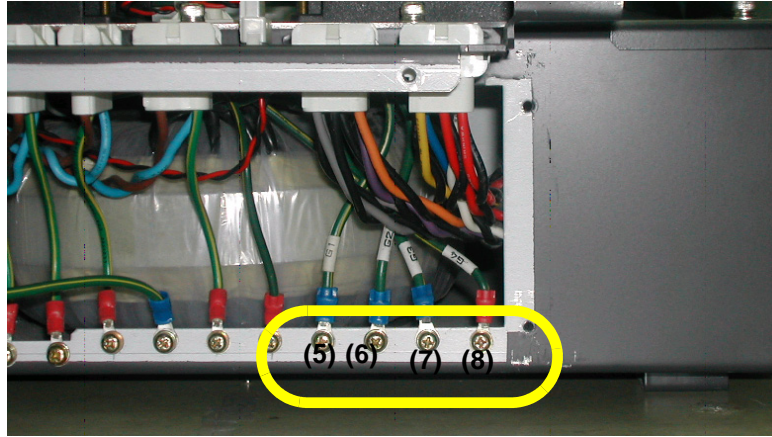

Figure 8-180 Unscrew 4 screws
6.) Unscrew four (4) ground screws (5-8). Refer to Figure 8-180.